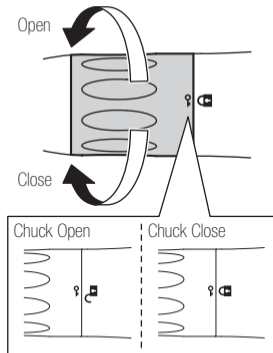

Fig. 2
- 1) Turn the Bur Lock Ring in the direction of the "🔓" mark until it clicks. (Fig.2)